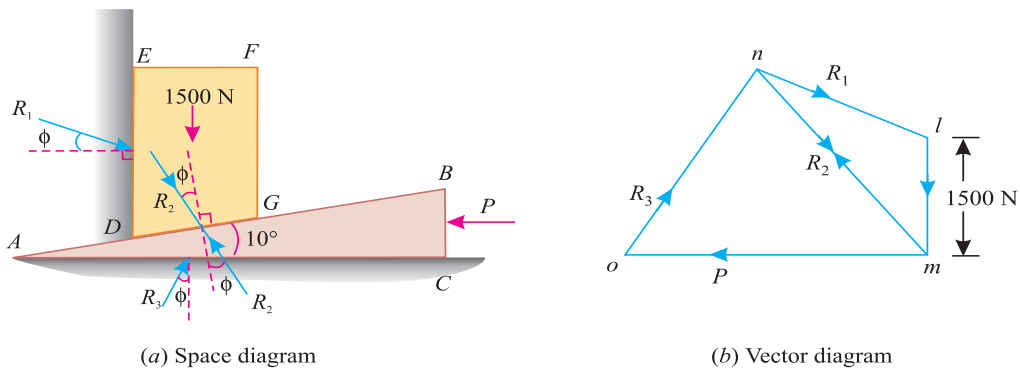

Fig. 9.13.
1. First of all, draw the space diagram for the block  $DEFG$  and the wedge  $ABC$  as shown in Fig. 9.13 (a). Now draw reactions  $R_1$ ,  $R_2$  and  $R_3$  at angles of  $\phi$  (i.e.  $16.7^\circ$  with normal to the faces  $DE$ ,  $AB$  and  $AC$  respectively).
3. Now through  $m$ , draw a horizontal line (representing the horizontal force  $P$ ). Similarly, through  $n$  draw a line parallel to the reaction  $R_3$  meeting the first line at  $O$  as shown in Fig. 9.13(b).